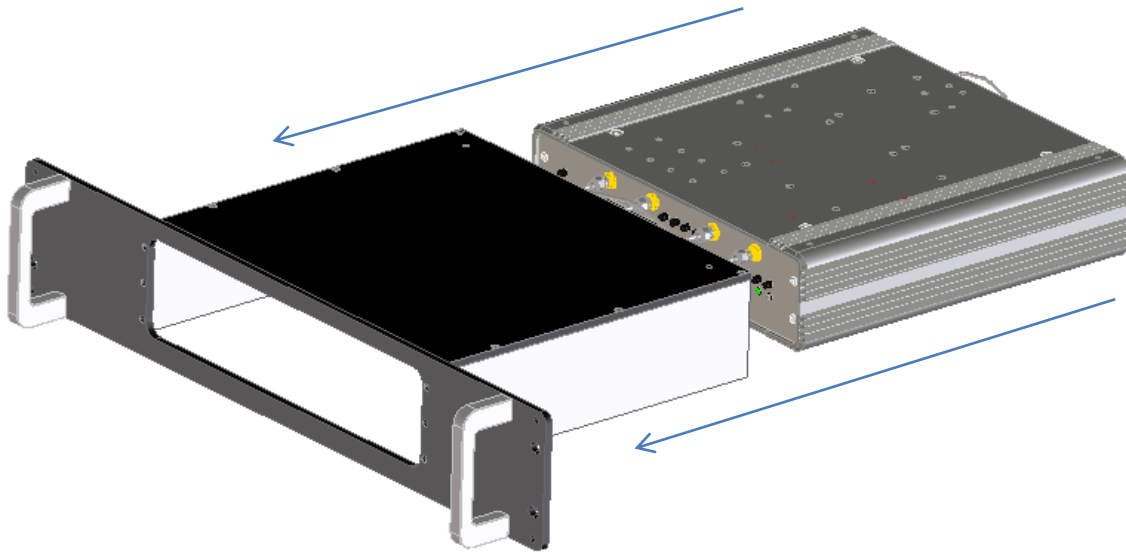

Figure 2: Slide instrument into rack mount kit
3. Slide the instrument into the rack mount as shown in Figure 2. Ensure that the front panel of the instrument protrudes from the front of the rack mount kit and that the four holes in the bottom of the rack mount kit align with the four holes in the instrument (where rubber feet were removed).